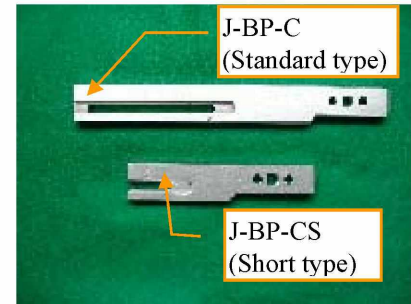
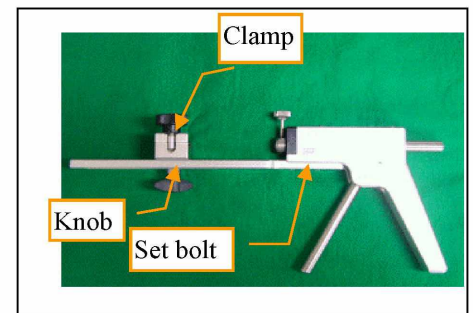

Fig. 48– Names of parts in replacing the base plate
Fig. 49– Names of base plates
- If the base plate for the J-BP-C (standard type) is too long, it may be replaced with the J-BP-CP (short type) (see Fig.48 and Fig. 49).